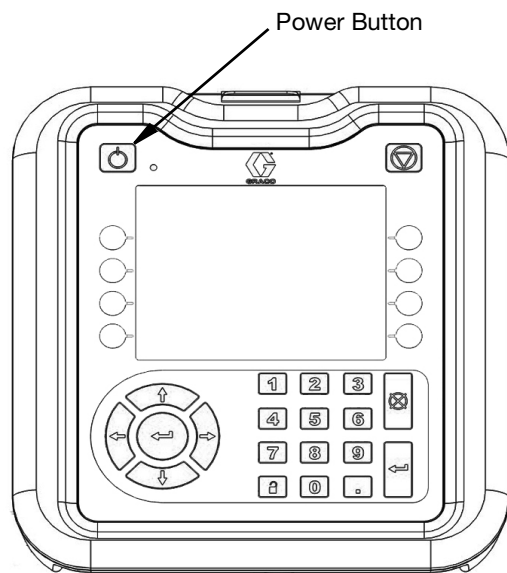

FIG. 35
- Enable the ADM by pressing the top left power button. See FIG. 35.